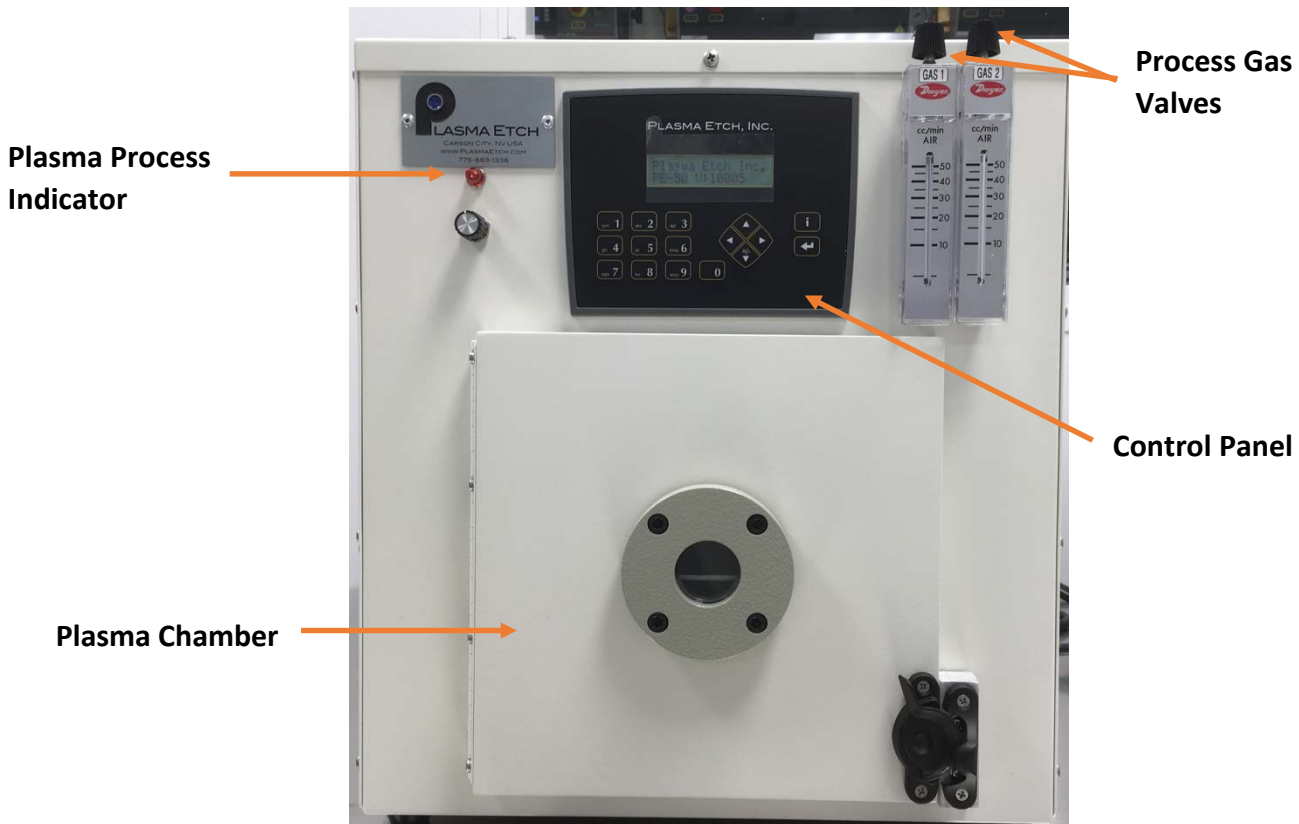

Figure 1: PlasmaEtch PE-50
c. RF power will be applied to the process gases, creating a plasma. The plasma process timer will start. The plasma process indicator will light up to signal that the plasma process is occurring (See Fig. 1)